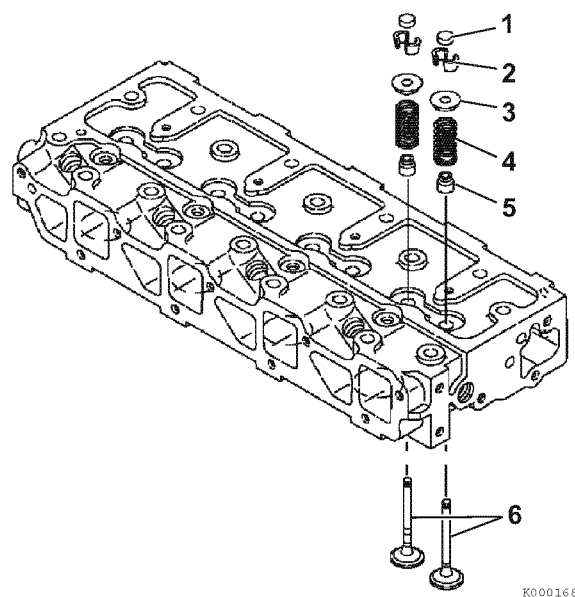

Figure 6-13
2. Remove the valve cap (1, **Figure 6-13**) and keep with the valve it was installed on.
4. Remove the valve keepers (2, **Figure 6-13**).
6. Remove the spring retainer (3, **Figure 6-13**) and valve spring (4, **Figure 6-13**).
8. Turn the cylinder head so the exhaust port side faces down. Remove the intake and exhaust valves (6, **Figure 6-13**) from the cylinder head.
9. Remove the valve stem seals (5, **Figure 6-13**).